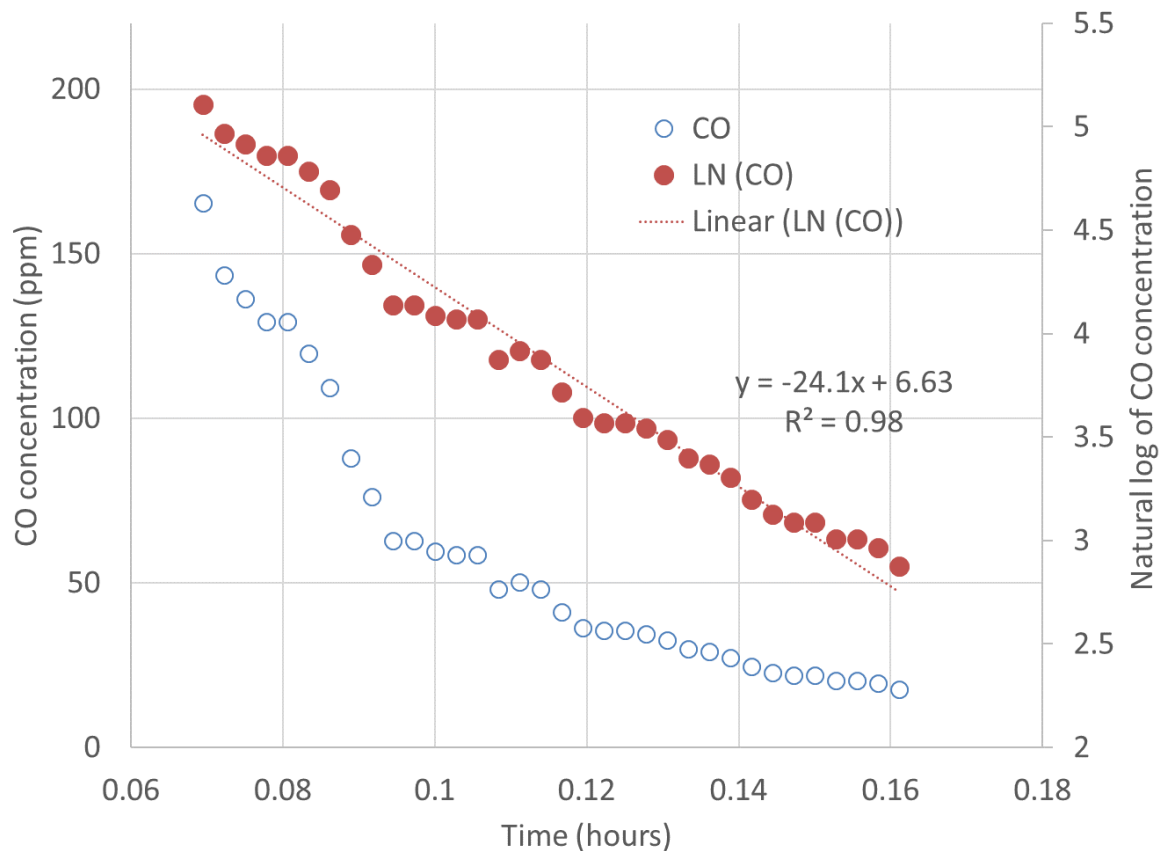

Figure 2. Graph showing example slope of natural log of decay curve
- ii. Since the units of time are hours, the air change rate for the data presented in Figure 2 is 24.1 air changes per hour, as can be seen in the slope of the equation ( $y = -24.1x + 6.63$ , where  $y$  is the natural log of CO, and  $x$  is the time in hours, generally measured from the start of the emissions test).